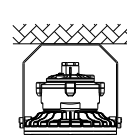
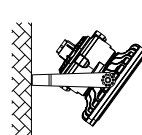

Figure 5
Figure 6
6. After installation, complete wiring with suitable listed water proof conduit fitting and conduit as per local standard, and make sure there is a good joint protective measures. Users can adjust 90 degree to left or right from vertical downward direction by adjusting the screw on the bracket. (Figure 5 .Figure 6).